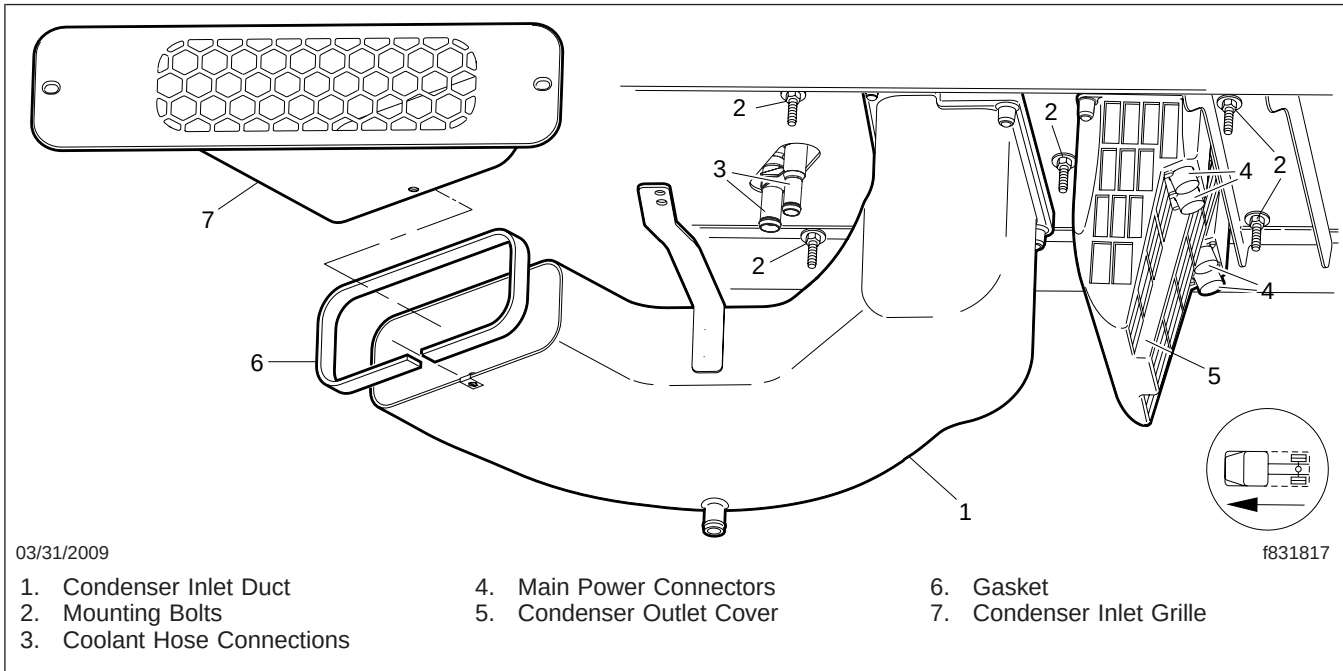

Fig. 2, Under Cab Components (pre-July 2011 shown)
7. Disconnect the coolant lines from the heater core. See Fig. 2.